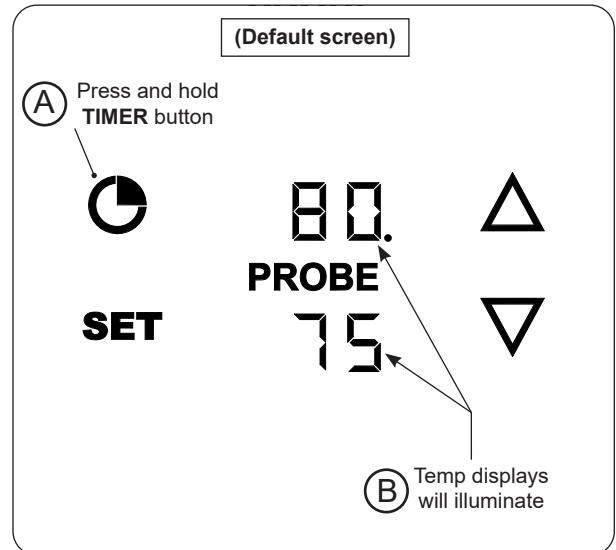

Fig. 30-1 Turn on thermometer/thermostat
3. Press and hold the **TIMER** button (Fig. 30-1, A) until the remainder of the displays illuminate (Fig. 30-1, B). This is the “**default screen**”. The default screen displays your temperatures. The top display is the grilling temperature, and the bottom display is the meat probe temperature (if plugged in).